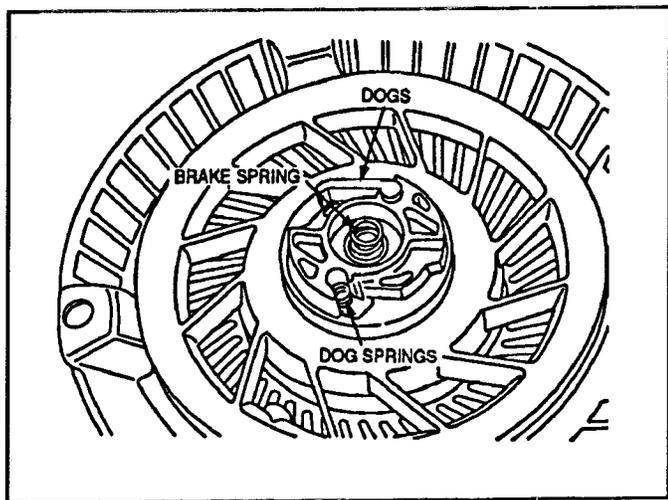

Figure 29
3. Install the dog springs and the brake spring as shown in Figure 29.